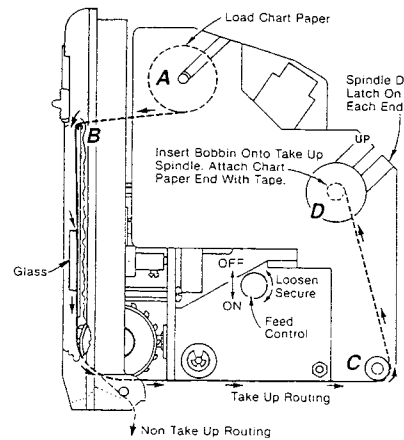

Fig. 9
3. To insert or remove chart paper, place recorder in horizontal position and press the release button in the direction shown in fig. 10. Raise the recorder mechanism to a vertical position until it locks. Remove feed shaft A (see fig 9) and place chart roll on spindle. Remove tape on roll and retain tape for securing chart on take-up spindle D. Unroll about 12" to 15" and route paper over top edge of scale plate B underneath glass, over the sprocket wheels, to the
rear and over the idle roller C up to the cardboard bobbin mounted on the take-up spindle D. Secure edge of chart to bobbin with tape. Make sure the sprocket holes in the paper engage the sprocket wheels. Be sure that feed control is tight and in the right position. The word "on" must be visible. Press in the idle roller extension C to allow the recording mechanism to move back down into the case and lock into position. Replace cover by positioning the "U" bend onto the plastic projections and snap front down. Make sure chart paper is not binding with the cover in place. For "non-take-up" recording, route chart through bottom slot as shown in fig. 9.
1. To select chart speed, energize recorder with proper line voltage and frequency. Raise recorder to vertical position (see loading and unloading chart paper on take-up models). Move chart drive switch to "ON" position exposing the word "ON". Make sure switch clicks into detent (see fig. 11) Set all three speeds to "OFF" position and tighten (see fig. 9). Move desired speed knob (1, 12 or 24) to "ON" position. Tighten while keeping pressure on gear mechanism.
2. Press in the idle roller extension C to allow the recording mechanism to move back down into the case and lock into position. Replace cover by positioning the "U" bend onto the projections above the chart well opening. Make sure chart paper is not binding with the cover in place. For "non-take-up" recording route chart through bottom slot as shown in figure 9.